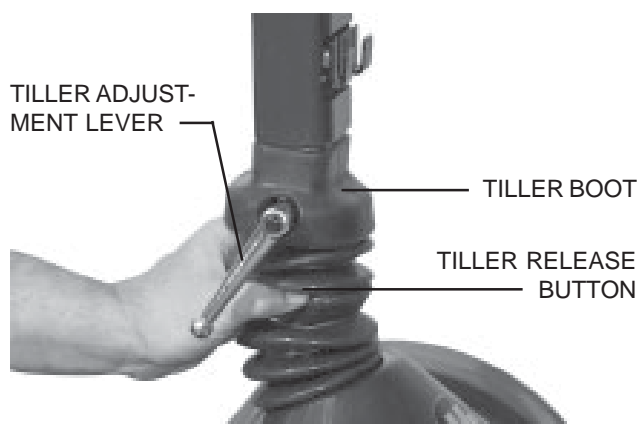

Figure 10. Adjusting the Tiller Angle
1. Turn the tiller adjustment lever counterclockwise until it is loose. If the tiller adjustment lever comes in contact with the tiller basket, pull it outward, turn it clockwise, and release it. Continue to loosen until the tiller is able to move. See figure 10.